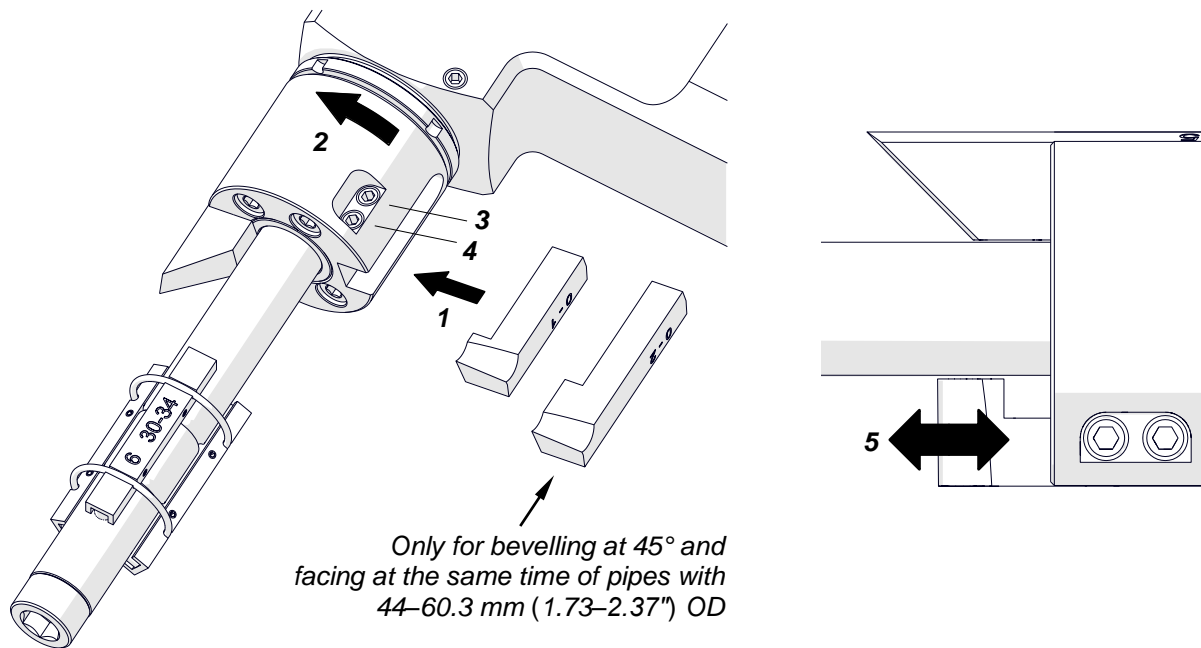

Fig. 4. Installing the tool bits
Put the facing tool bit and the bevelling tool bit into the sockets of the tool bit holder (1, Fig. 4). Point the blades in the rotation direction (2). Next, use the 3 mm hex wrench and the screws (3, 4) to attach the tool bits. Make sure that the pressing surfaces of the screws are in full contact with the tool bits. Make sure that the screws are tight. Adjust the facing tool bit as shown (5). To remove the tool bit, loosen the screw (3) first.